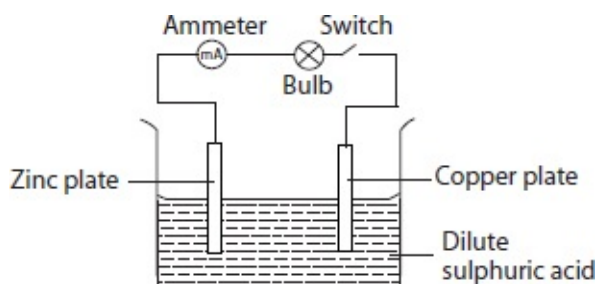

Fig. 10.20: Simple cell
- Connect the circuit as shown in figure 10.20.